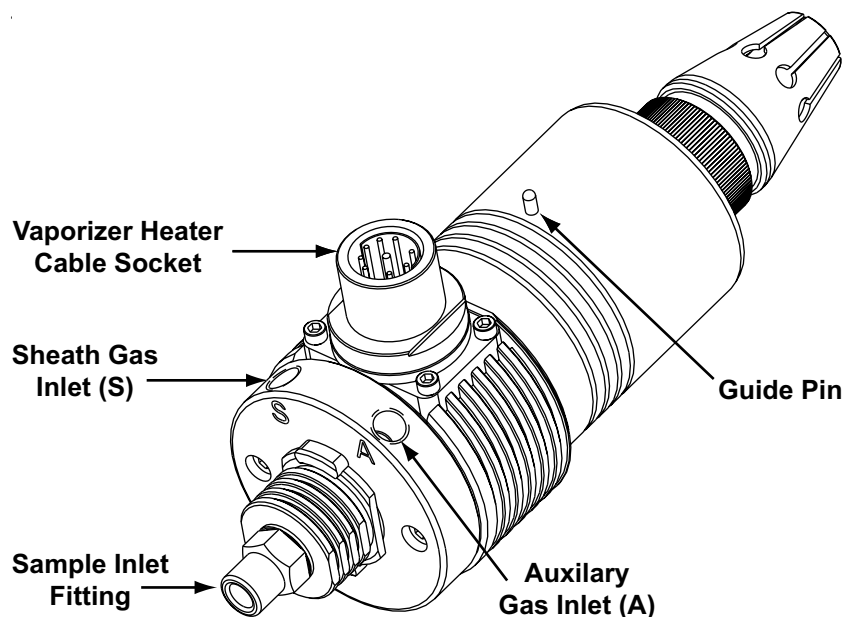

Figure 6-6. APCI probe
3. Insert the APCI probe into the port in the ion source housing, align the guide pin on the probe body at a 45 degree angle from the API interlock block. See Figure 6-6
10. Connect the sheath gas fitting (blue) to the sheath gas inlet (S) on the probe. (See Figure 6-6)
11. Connect the auxiliary gas fitting (green) to the auxiliary gas inlet (A) on the probe. (Figure 6-6)